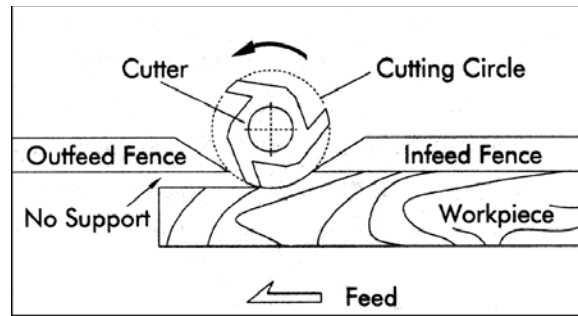
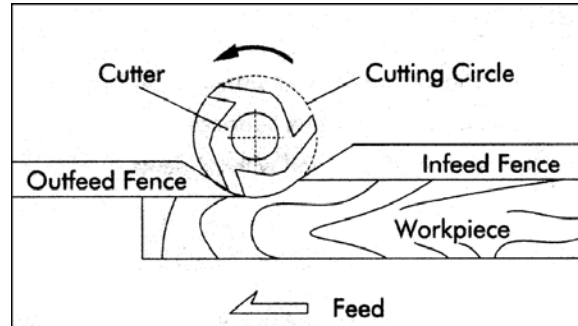

Figure 27
Figure 28
- When the shaping operation removes the entire edge of the stock, e.g. in jointing or making a full bead, the shaped edge will not be supported by the outfeed fence when both fences are in line, as shown in Figure 27. In this case, the stock should be advanced to the position shown in Figure 27 and stopped. The outfeed fence should then be moved forward to contact the work, as shown in Figure 28. The outfeed fence will then be in line with the cutting circle, and the operation can continue.